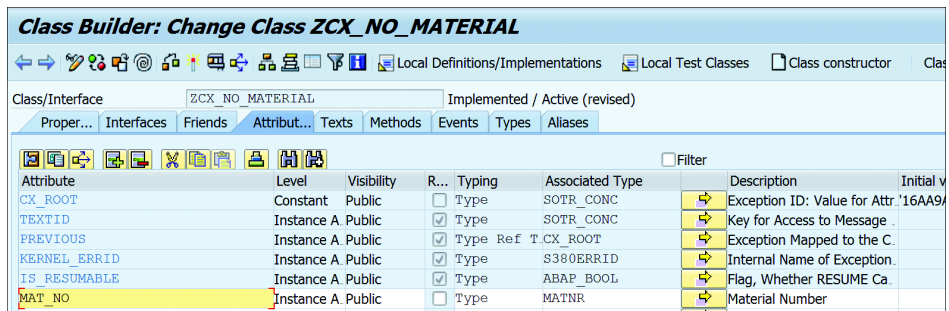

Figure 9.19 Maintaining Attribute in Exception Class
1. In the ATTRIBUTES tab of the exception class, define an attribute with a value you want to pass in the message (see Figure 9.19). In this example, we're maintaining MAT_NO as the attribute name of type MATNR because we plan to pass the material number in the exception message. Once the attribute is defined, click ACTIVATE.